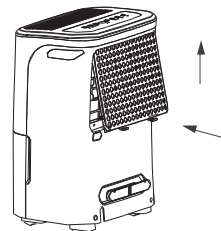

Fig.10
- Insert the air filter into the unit from underside to upside (Fig.10).